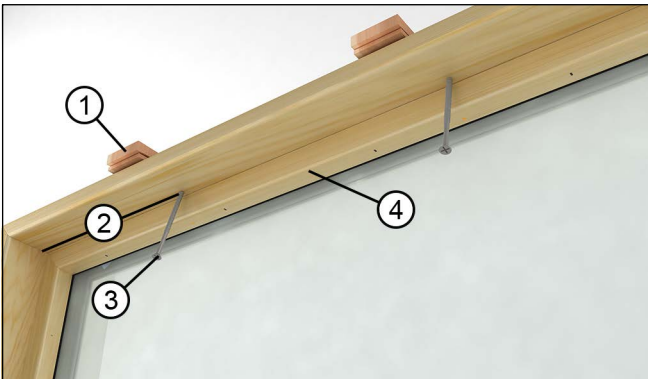

Figure 11 ELCADG mulled units.
- 1. Mark and pre-drill 1/4" from the glazing bead at a 15 degree angle, with a 7/64" drill bit, 8" from each end and a maximum 14" evenly spaced. Shim and fasten through the screw holes using the 3-1/8" round top installation screws. See Figure 11. Apply putty over the screw holes.